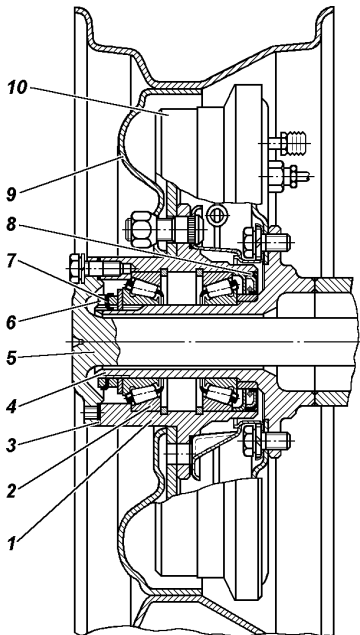

Fig. 60. Rear Wheel Hub:
2. Take out the rear axle shaft 5 (Fig. 60) (remove the axle driving flange with hub drive) or remove the hub driving flange and the front axle wheel disengaging coupling.